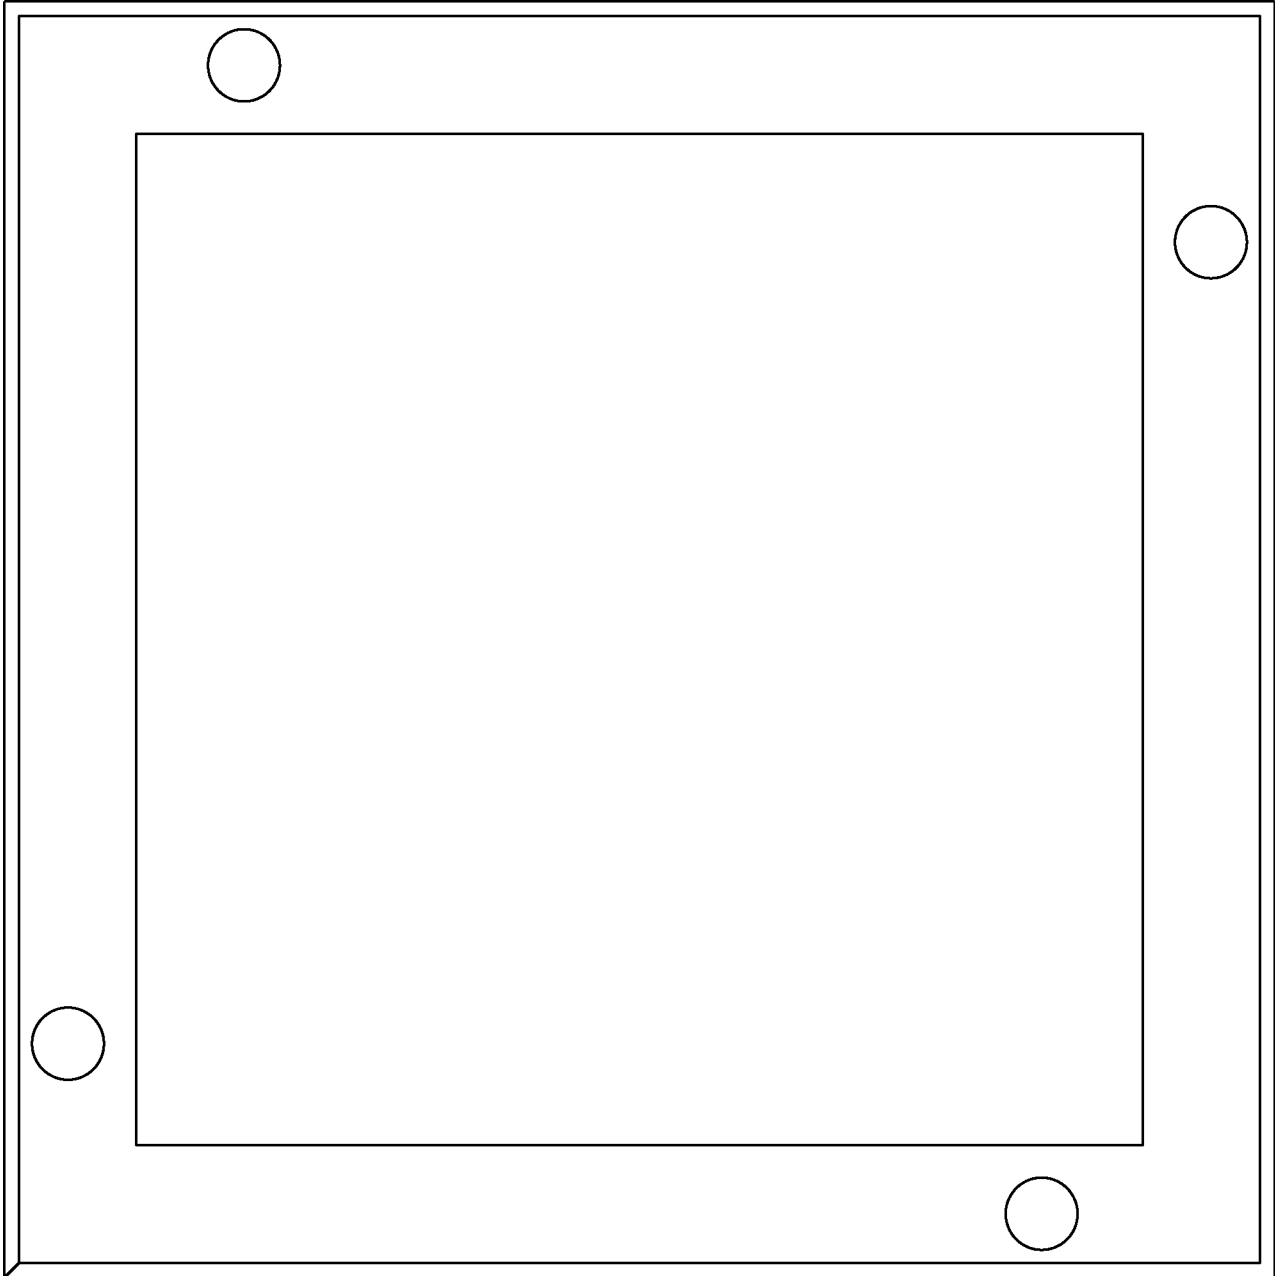

Figure 2: Sensor Guard Mounting Frame Template (Flush Mounting)
- Use Figure 2 if you are flush mounting with the mounting frame.
- Use Figure 2 for flush mount applications.